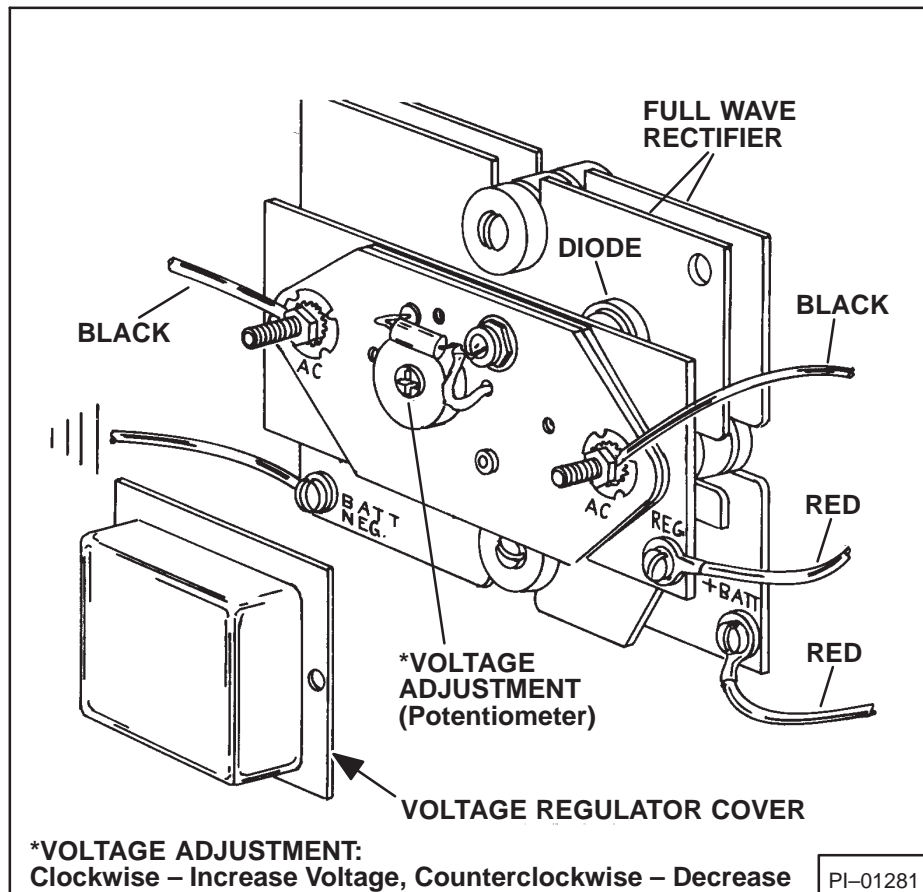

Fig. 44 Voltage Adjustment (Later M-500 & Early M-600 W/VF4D Engine)
- c. Regulator Assembly: The regulator assembly contains two semiconductors, a silicon controlled rectifier, which is the electronic switch for the control winding, and a zener diode which is the battery voltage sensing device, turning the SCR on when the battery voltage at the predetermined level. To adjust voltage, remove two screws from regulator cover, lift cover off, connect voltmeter to battery terminals. Be sure the battery load is less than alternator output so that unit is regulating. With alternator running at approximately one-half speed, adjust potentiometer to desired voltage (Fig. 44).